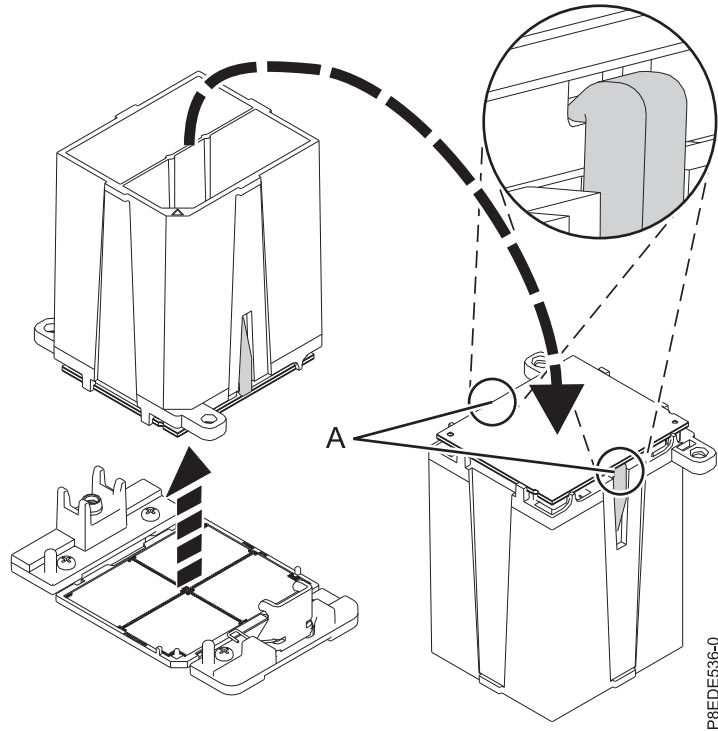

Figure 21. Preparing for system processor module installation
- a. Ensure that both jaws (**A**) are firmly grabbing the system processor module, as shown in Figure 21 on page 24.